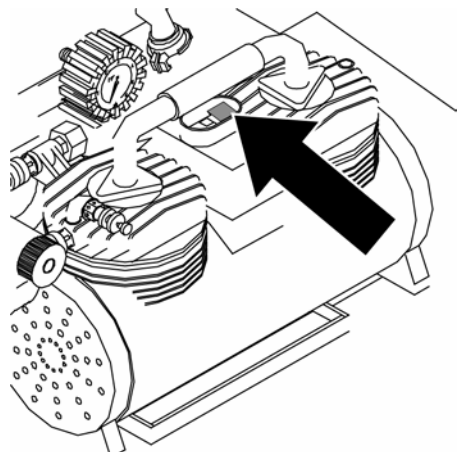

Fig. 56: Switching the compressor off
15. Switch off the compressor via the red button (Fig. 56/arrow).